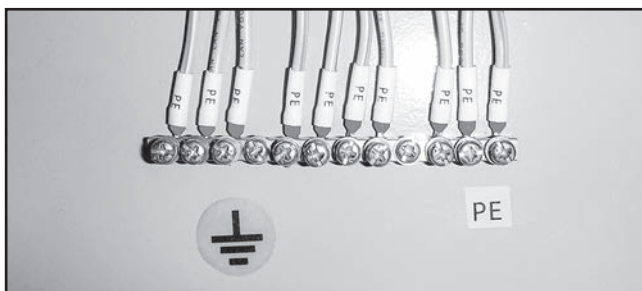

Figure 37. Electrical cabinet ground block.
4. Connect incoming ground wire to electrical cabinet ground block (see **Figure 37**).